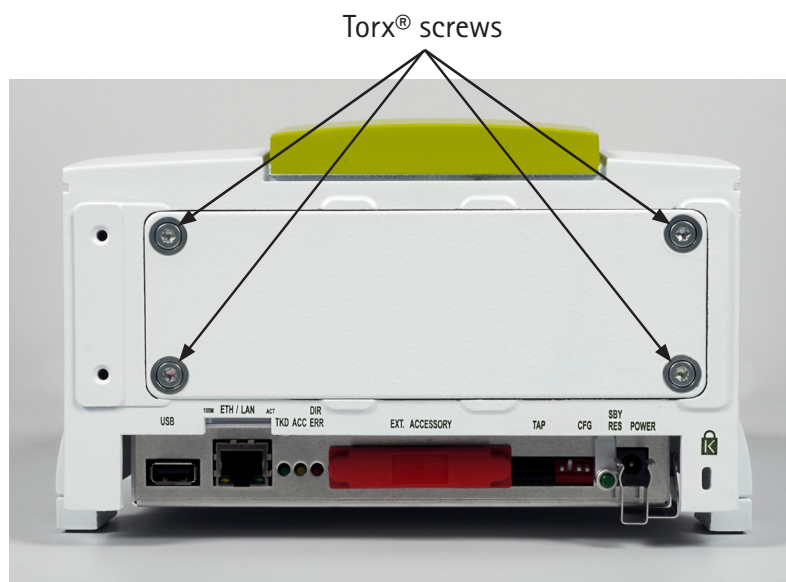

Figure 19. Removing the cover plate
2. On the back of the instrument, loosen the 4 cover plate Torx® screws with the Torx® TX20 screw driver supplied (Figure 19).
10. Attach the cover plate and fasten the 4 Torx® screws (Figure 19). Plug the power plug to the power outlet again.
3. Remove the cover plate from the rear side by loosening the 4 Torx® screws (Figure 19) with the Torx® screw driver supplied.
8. Attach the cover plate and fasten the 4 Torx® screws again (Figure 19).